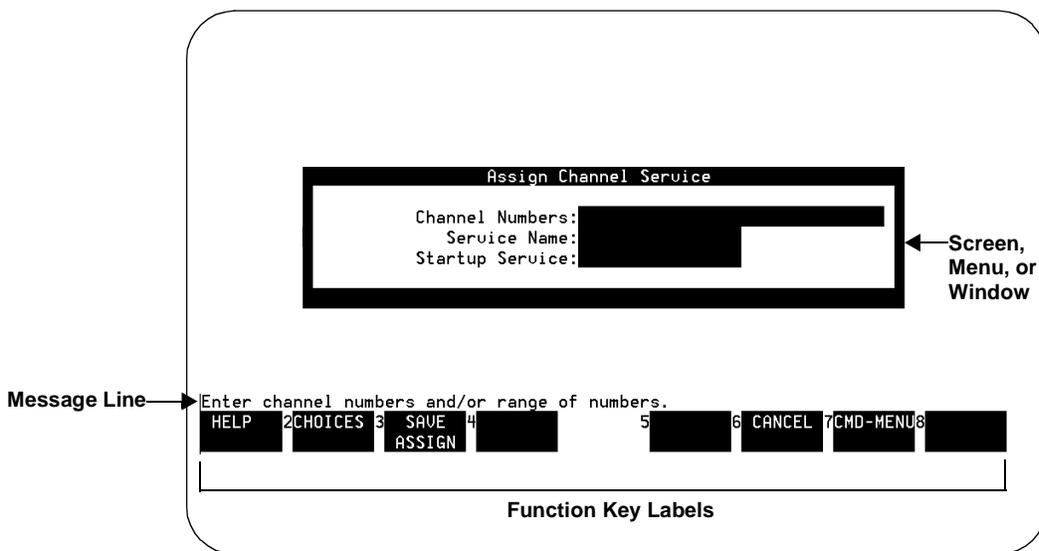

Figure B-1. Sample INTUITY CONVERSANT System Screen
The video monitor, in conjunction with the keyboard, is the primary means of communication between you and the voice system. Although the information on the monitor often changes, the way the information is arranged does not change. The video monitor is divided into the following areas (Figure B-1):
- *Fields* — Fields are the areas on a screen or window where you enter information. For example, in Figure B-1 the fields are Channel Numbers, Service Name, and Startup Service. Menus do not have fields.